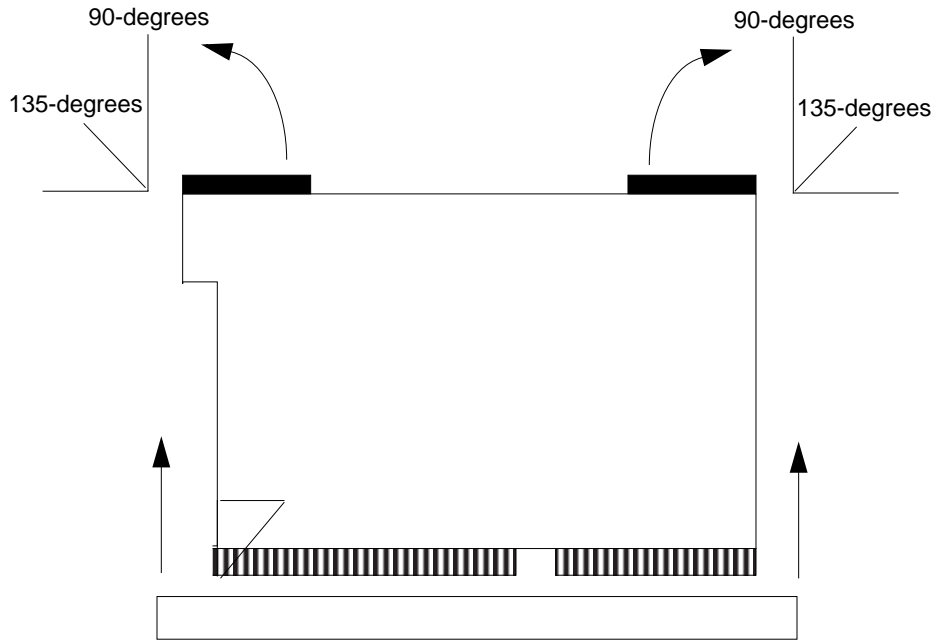

FIGURE 3-2 Removing the UltraSPARC Module
- 2. With the thumbs of both hands, simultaneously lift the two levers on the module upwards and to the side—about 135 degrees (FIGURE 3-2).**